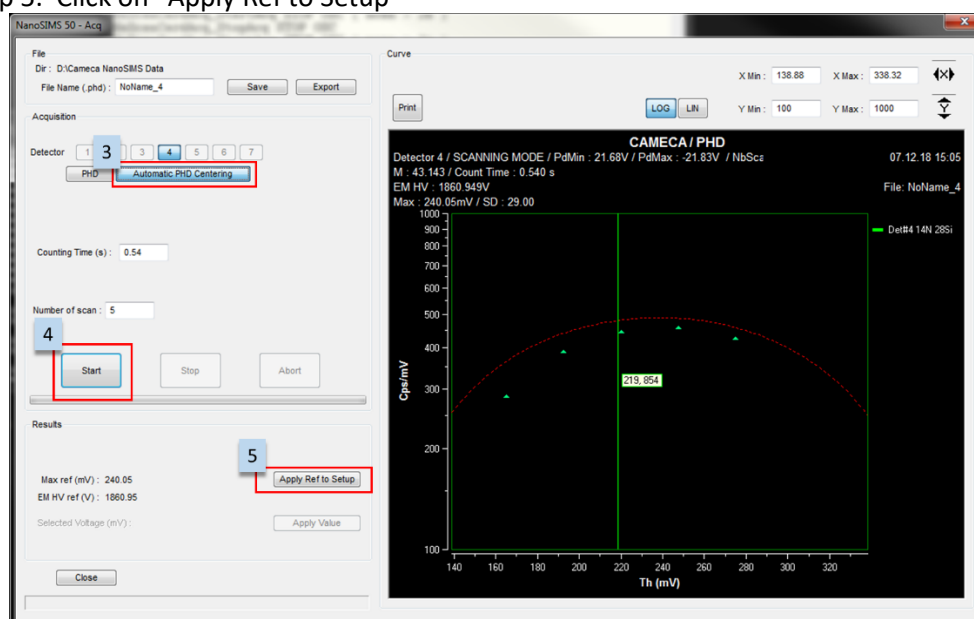

Figure 418: Automatic PHD adjustment
step 3 of Figure 418: select “automatic PHD centering”,